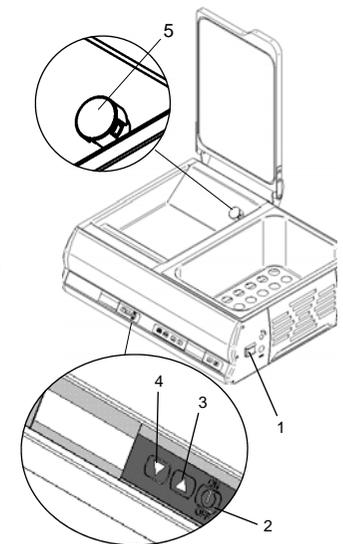

Fig. 11
- Place the master switch (Ref. 1 fig. 11) to ON.
- Close the suction plug turning it (Ref. 5 fig. 11)
- Press the key UP 3 times (Ref. 3 fig. 11)
If the operator wants to interrupt the cycle before the end it should press the switch-on key (Ref. 2 fig. 11).